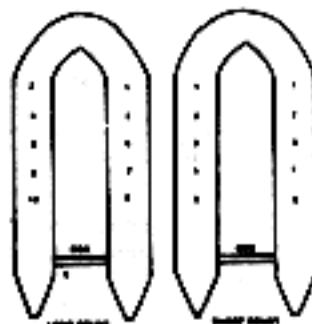

Figure 9-2. Crew positions, long count and short count.
- d. Crew is positioned as shown in figure 9-2.